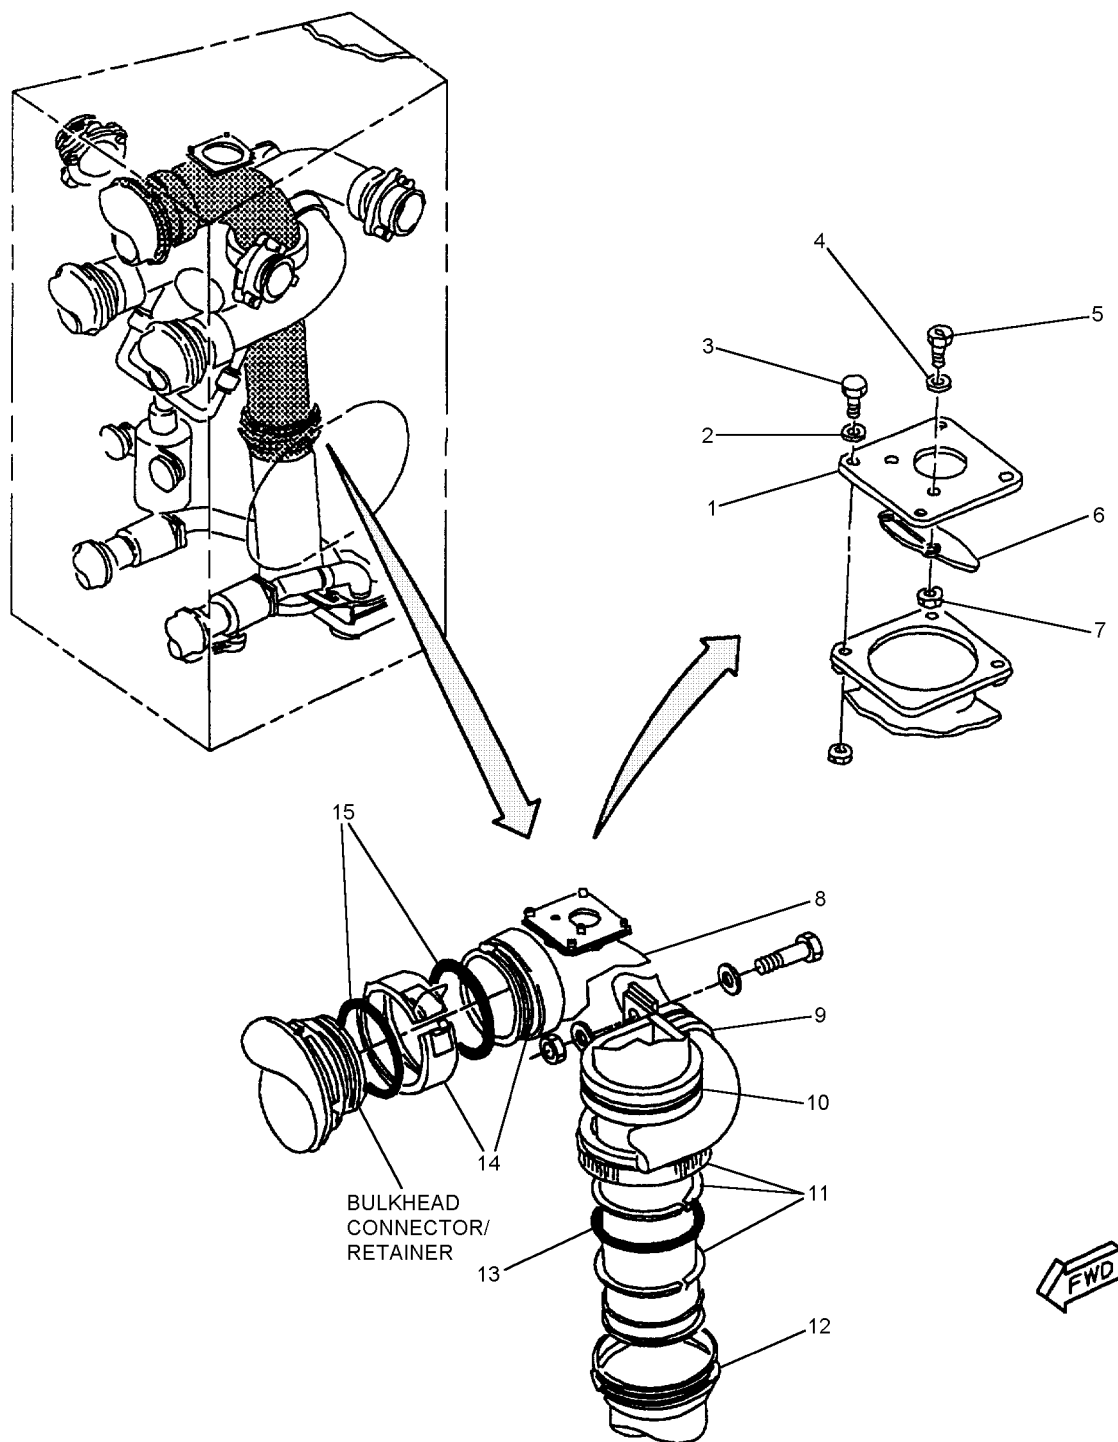

Figure 1. Siphon Breaker Check Valve (5VAS545) (Sheet 1)
- b. On 161924 AND UP, remove clamps (9 and 10, figure 1) and attaching parts.
- c. Disconnect coupling (11) and remove coupling (14), packings (13 and 15), and tube (8).
- d. Remove bolts (3), nuts, washers (2), and plate (1) with valve (6).
- e. Remove screws (5), washers (4), nuts (7), and valve (6) from plate (1).
b. Lubricate new packings (13 and 15, figure 1), with petrolatum.
c. Install valve (6) on plate (1) with screws (5), washers (4), and nuts (7).
d. Install plate (1) with valve (6), bolts (3), nuts, and washers (2).
e. Install packing (13) on tube (8).
f. Install packings (15), tube (8), and coupling (14).
g. Connect coupling (11) to tube (12).